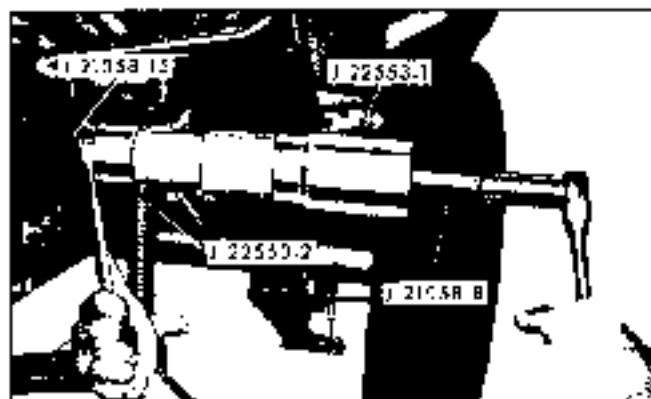

Fig. 4-3 Installing Spring Front Bushing—Firebird
g. Position installer adapter J 22553-2 over flange end of bushing. Then position puller screw J 21058-15 through installer adapter and bushing. Refer to Fig. 4-3 for view of installation tools.